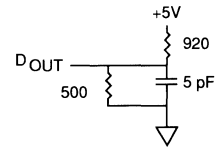

Fig. 2 OUTPUT LOAD EQUIVALENT
6. tHZCE, tHZWE and tHZOE are specified with CL = 5pF as in Fig. 2. Transition is measured ± 500mV from steady state voltage.